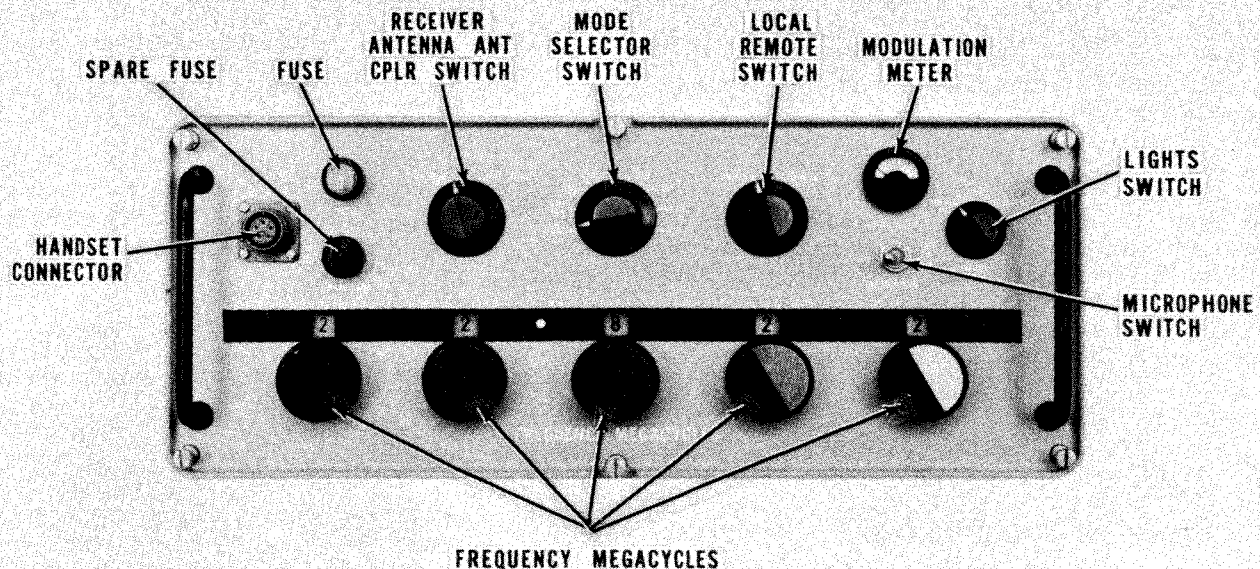

Figure 2-1. Exciter SC-910E, Front View
**2.1.1 General.** Exciter SC-910E is designed to generate single sideband transmission of upper sideband (USB), lower sideband (LSB), or independent sideband (ISB) as well as conventional transmissions of frequency shift keying (FSK), CW and AM. The Exciter consists of a main frame, seven electronic plug-in assemblies, and a power supply. Power and Signal output connections are made to jacks mounted on the rear panel. All controls required for normal operation are located on the front panel. (See figure 2-1.) The unit may be operated remotely or locally.
All the controls and indicators necessary to operate the Exciter are mounted on the front panel. (See figure 2-1.) The controls and indicators are listed in table 2-1.